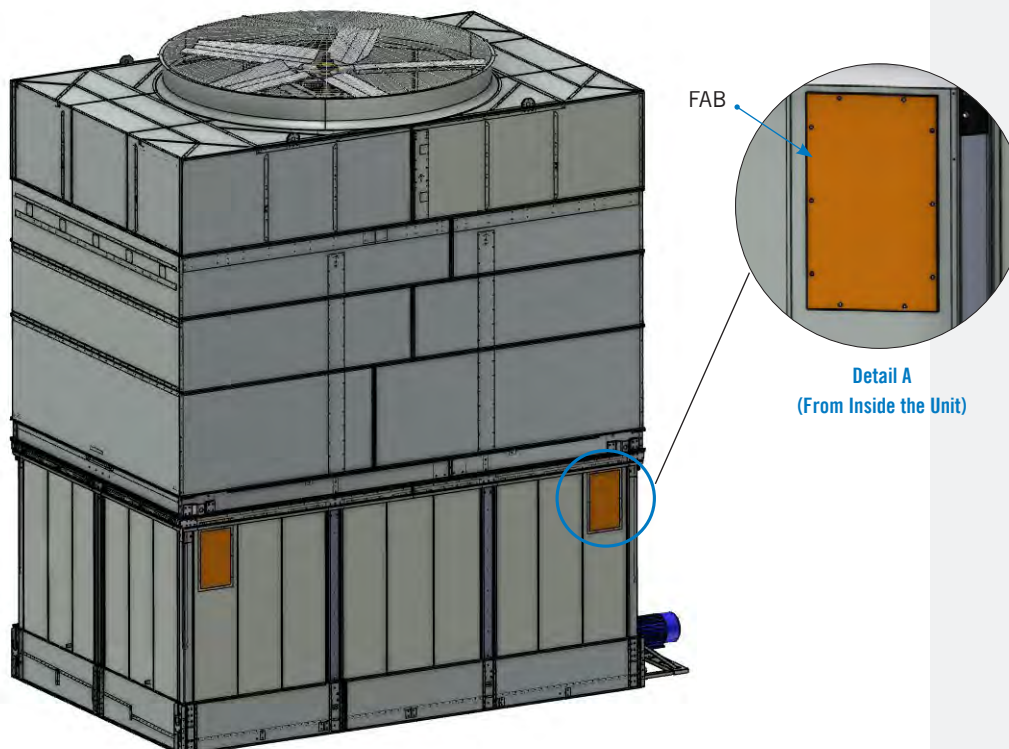

Figure 11. Quad Cell Air Bypass Panel Windows
3. PCC quad cell units come with air bypass panel windows on Face C as shown in **Figure 11**. These windows facilitate removal of the inner most lift shackle after the final cell is installed. The window panels FAB are shipped loose inside the cold water basins and should be installed using the supplied flat butyl sealer tape (BAC part # 554000) and 5/16” self-tapping screws after the final cell is in place and the lift shackles are removed.